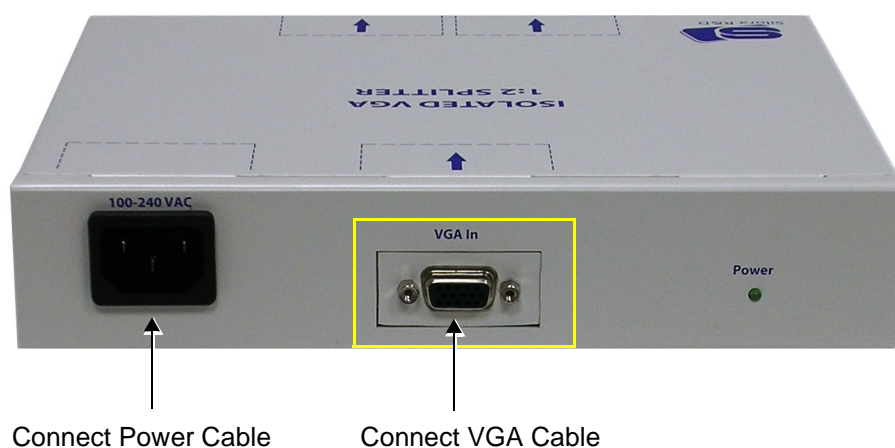
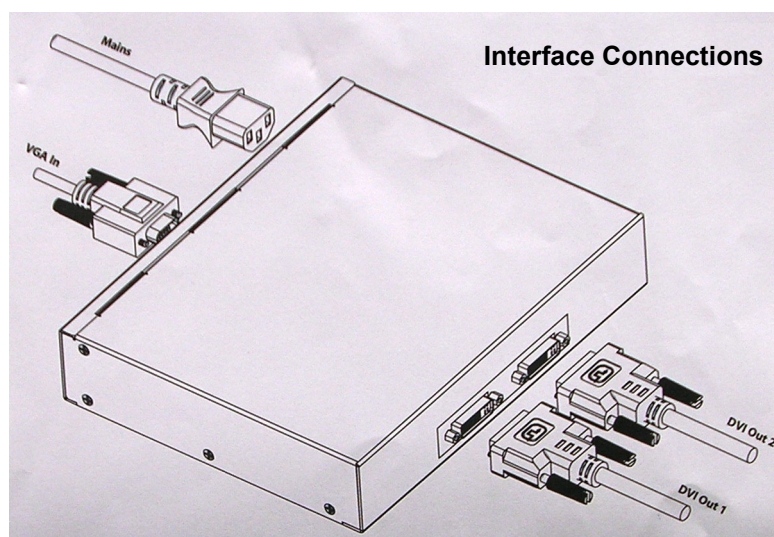

Figure 3-53 VGA Splitter - Rear View
Figure 3-54 Connections to VGA Splitter
- 1.) Connect the VGA cable (Figure 3-52) to the VGA input port at the rear of the VGA splitter (see Figure 3-53 and Figure 3-54).
- 2.) Plug the VGA Splitter power cable (Figure 3-52) into the power socket on the rear of the VGA Splitter (see Figure 3-53 and Figure 3-54).
- 3.) Connect the necessary DVI cables (Figure 3-52) to the VGA Splitter DVI output ports (as required for further connection to other DVI devices). Refer to Figure 3-54, above.